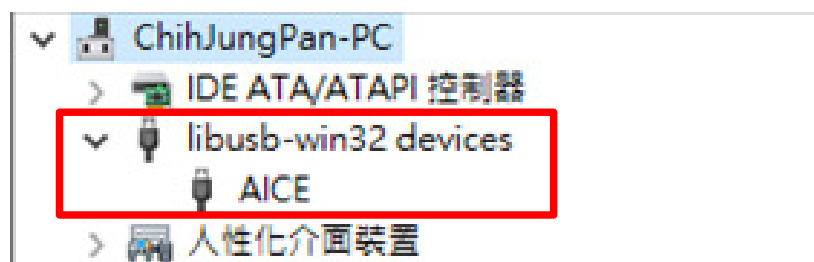

Figure 3-1
- (3) Supported Hardware Model No.:
- (4) Supported software version:
- (5) Supported Operating system:
- (6) Apply the following interface modes:
- HY16F Mini Link Debug Tool 's USB Port driver uses the Windows general USB device driver.(Figure 3-1)